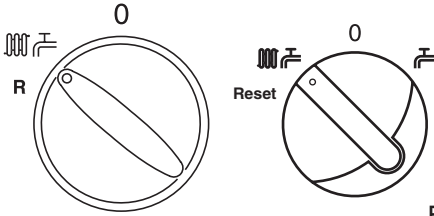

Fig. 11
1. Ensure that there is power to the boiler (though it is not necessary for there to be any heating demand). Turn the selector switch to the boiler ON position (Fig. 11).